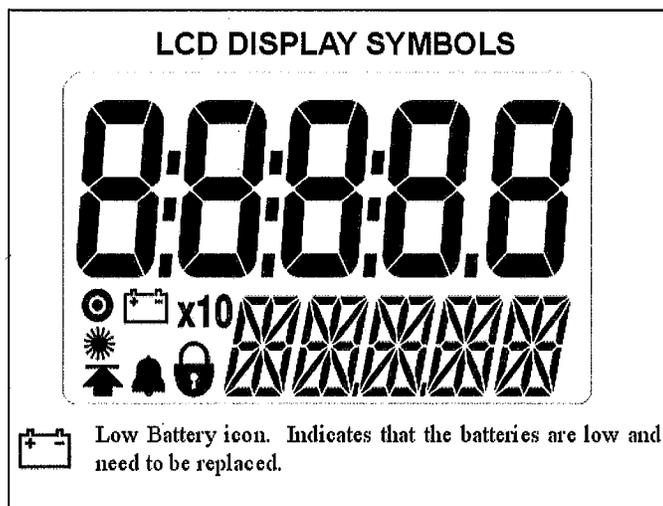

Figure 11: Low Battery Icon
16.0 Preventive Maintenance and Repairs. The only authorized maintenance that should be performed on the PLT200 is a battery replacement. A low battery condition is illustrated in Figure 11.